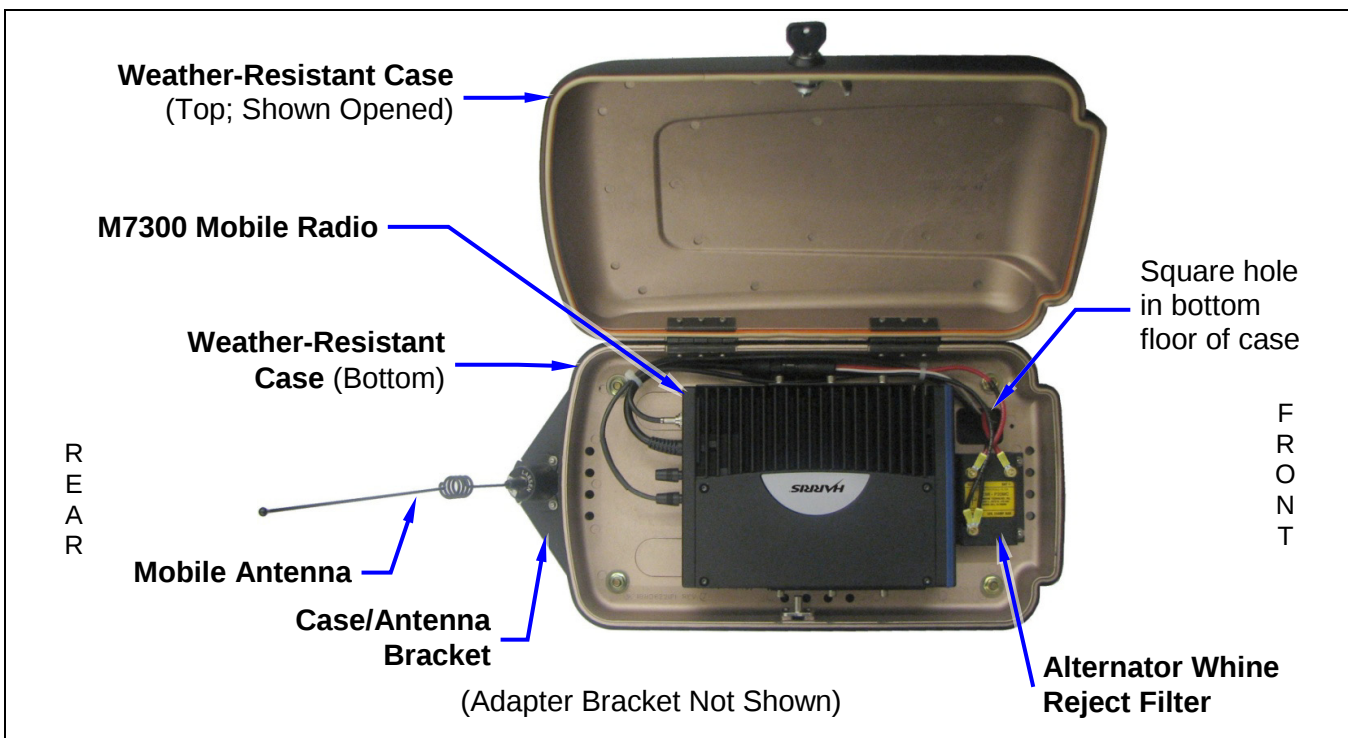
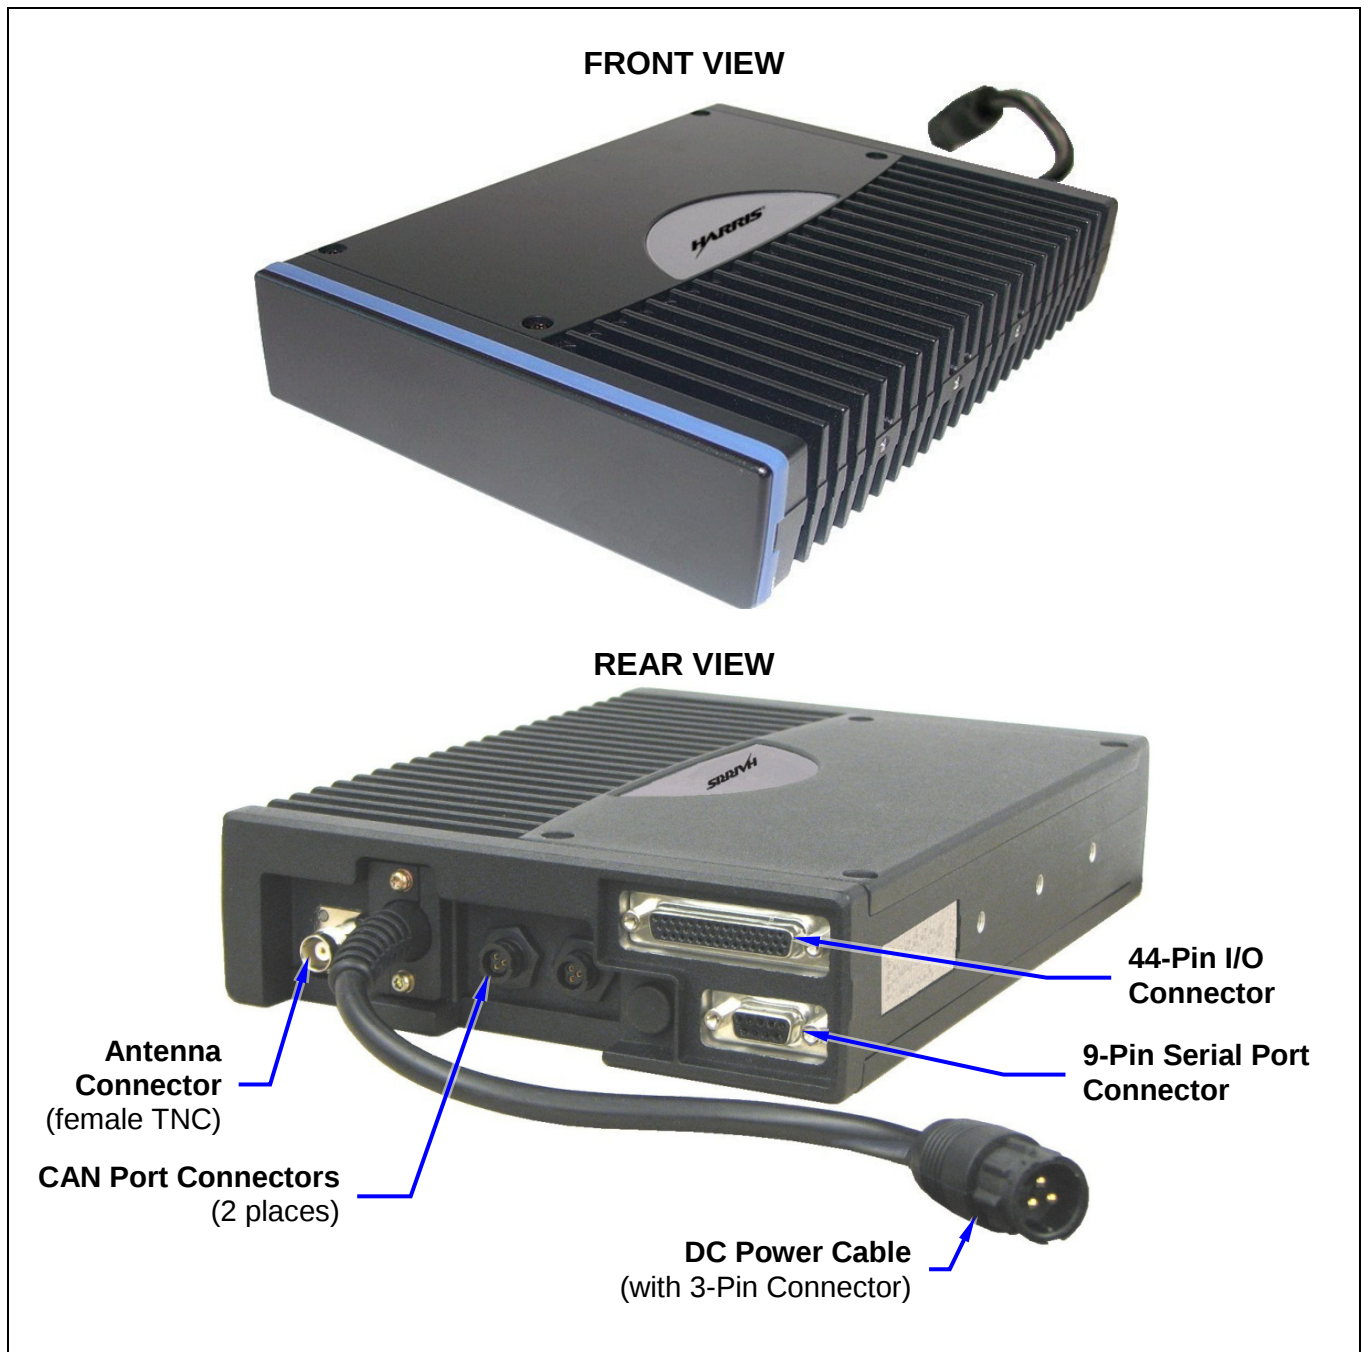

Figure 5-3: Radio inside Motorcycle Radio Case (For VHF and 800 MHz Only)
Figure 5-5: M5300/M7300 Mobile Radio — Front and Rear Views (Radio Removed from Case)
1. Lay the radio down into the mounting bracket with its front surface towards the front of the case. This positions the connectors on the rear panel of the radio towards the rear of the case and motorcycle. See Figure 5-3 and Figure 5-5 on pages 32 and 33.